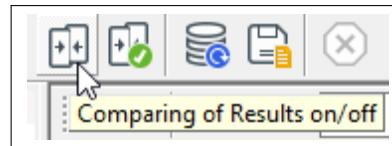
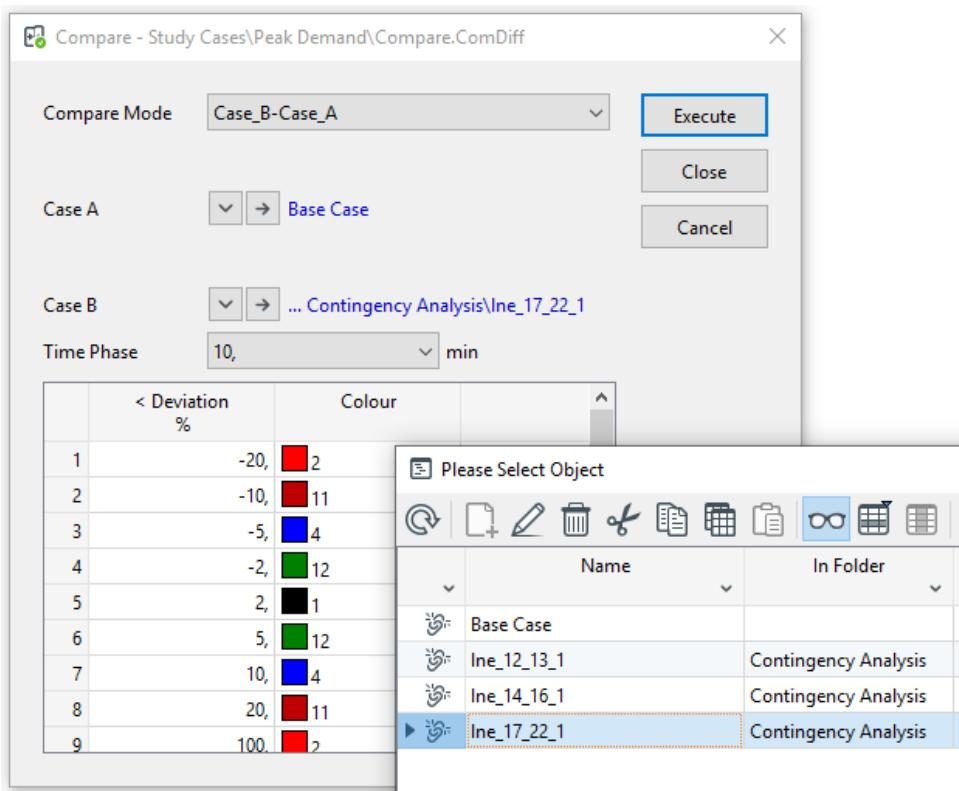

Figure 27.9.2: Comparing of Results Button
Figure 27.9.3: Selection of other Cases for Comparison
5. To change the comparison mode and/or the cases to be compared, click on the *Edit Comparing of Results* button (Figure 27.9.2). The *Compare* dialog will pop up displaying the current settings. To change the cases to be compared, click on the black arrow pointing down (▼) and select a different case (Figure 27.9.3).